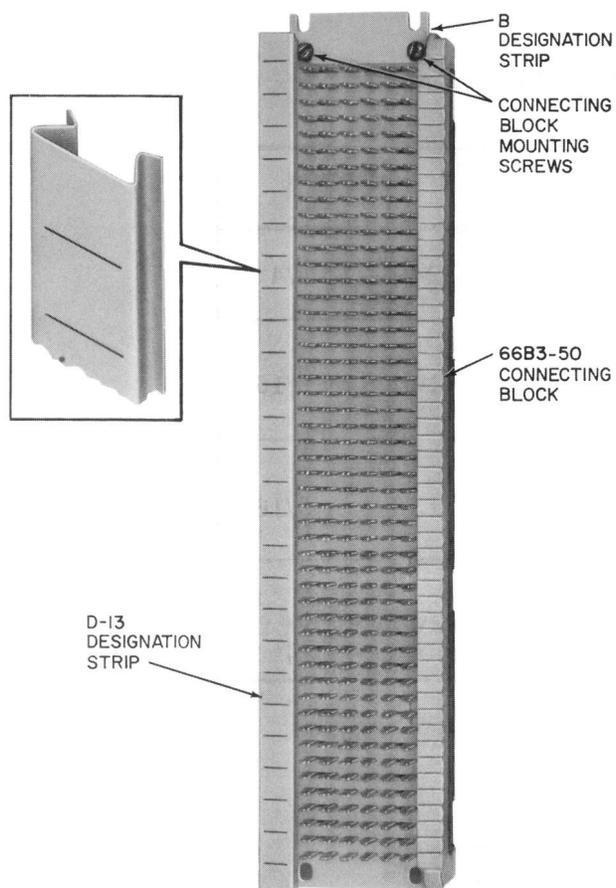

Fig. 19—Designation Strips
6.01 The B designation strip is designed to mark 66B3-50 and 66B4-25 connecting blocks (Fig. 19).
6.07 The D designation strips (Fig. 19) are the same as the C designation strips, except the D strips are furnished with imprinted lines. The lines